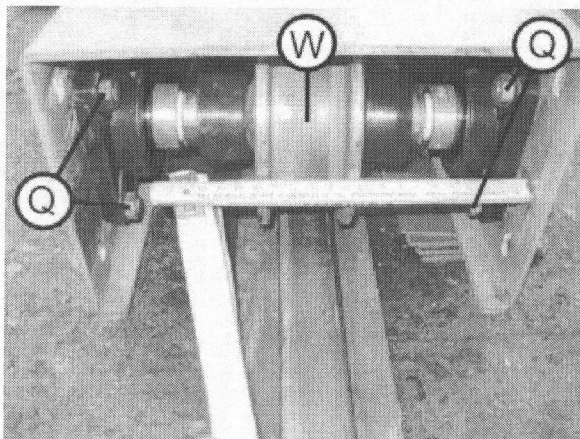

Fig. 016
11. When assembly the new components, ensure that the clamping ring of the flange bearing is tightened only when the running roller is installed and connected in the movable foot again. For this, tighten the 8 screws (Q) of the flange bearing and then connect the running roller (W) in the movable foot (Fig. 016).